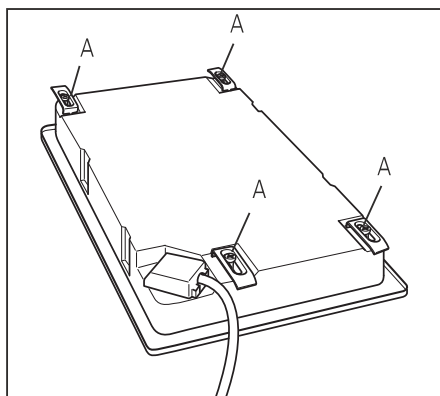

Fig. 4 Fastening the installation brackets
Fastening the installation brackets (Fig. 4)
- 3 Fasten the brackets "A" to the appropriate socket holes, without tightening the screws "B" for the moment (see Fig. 4).